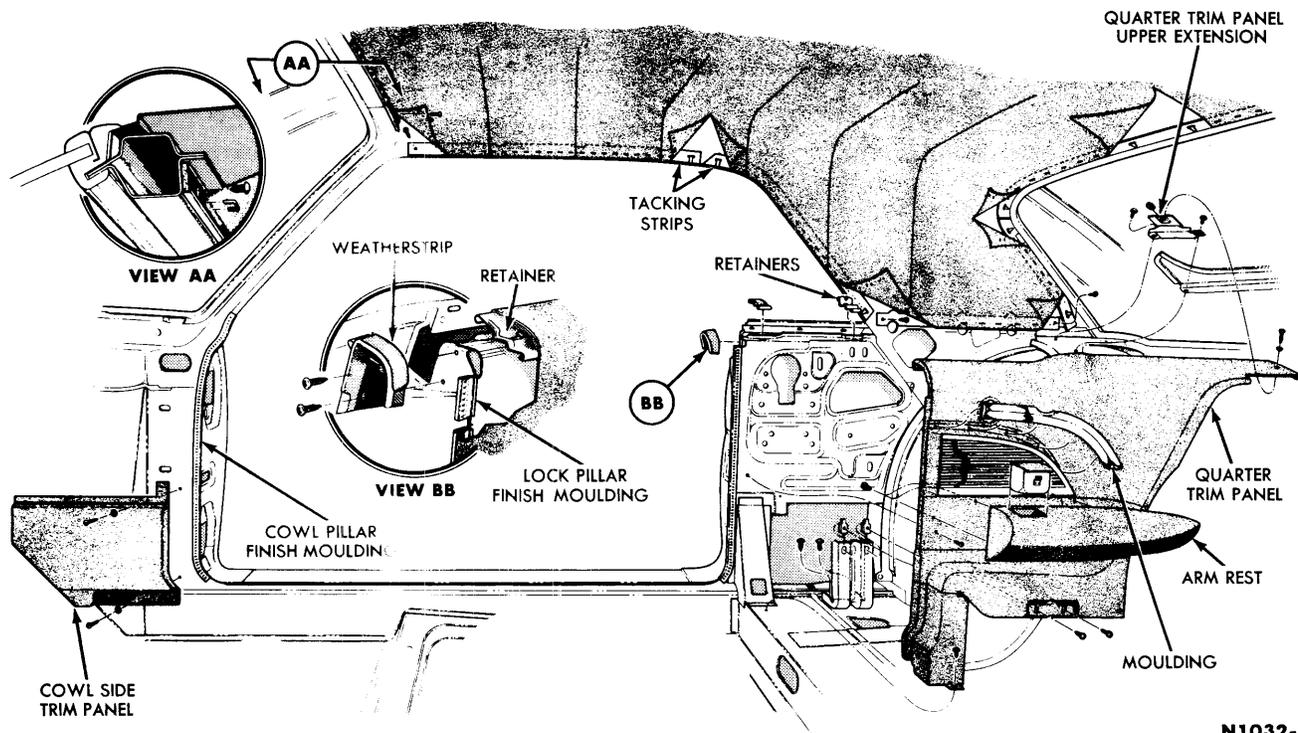
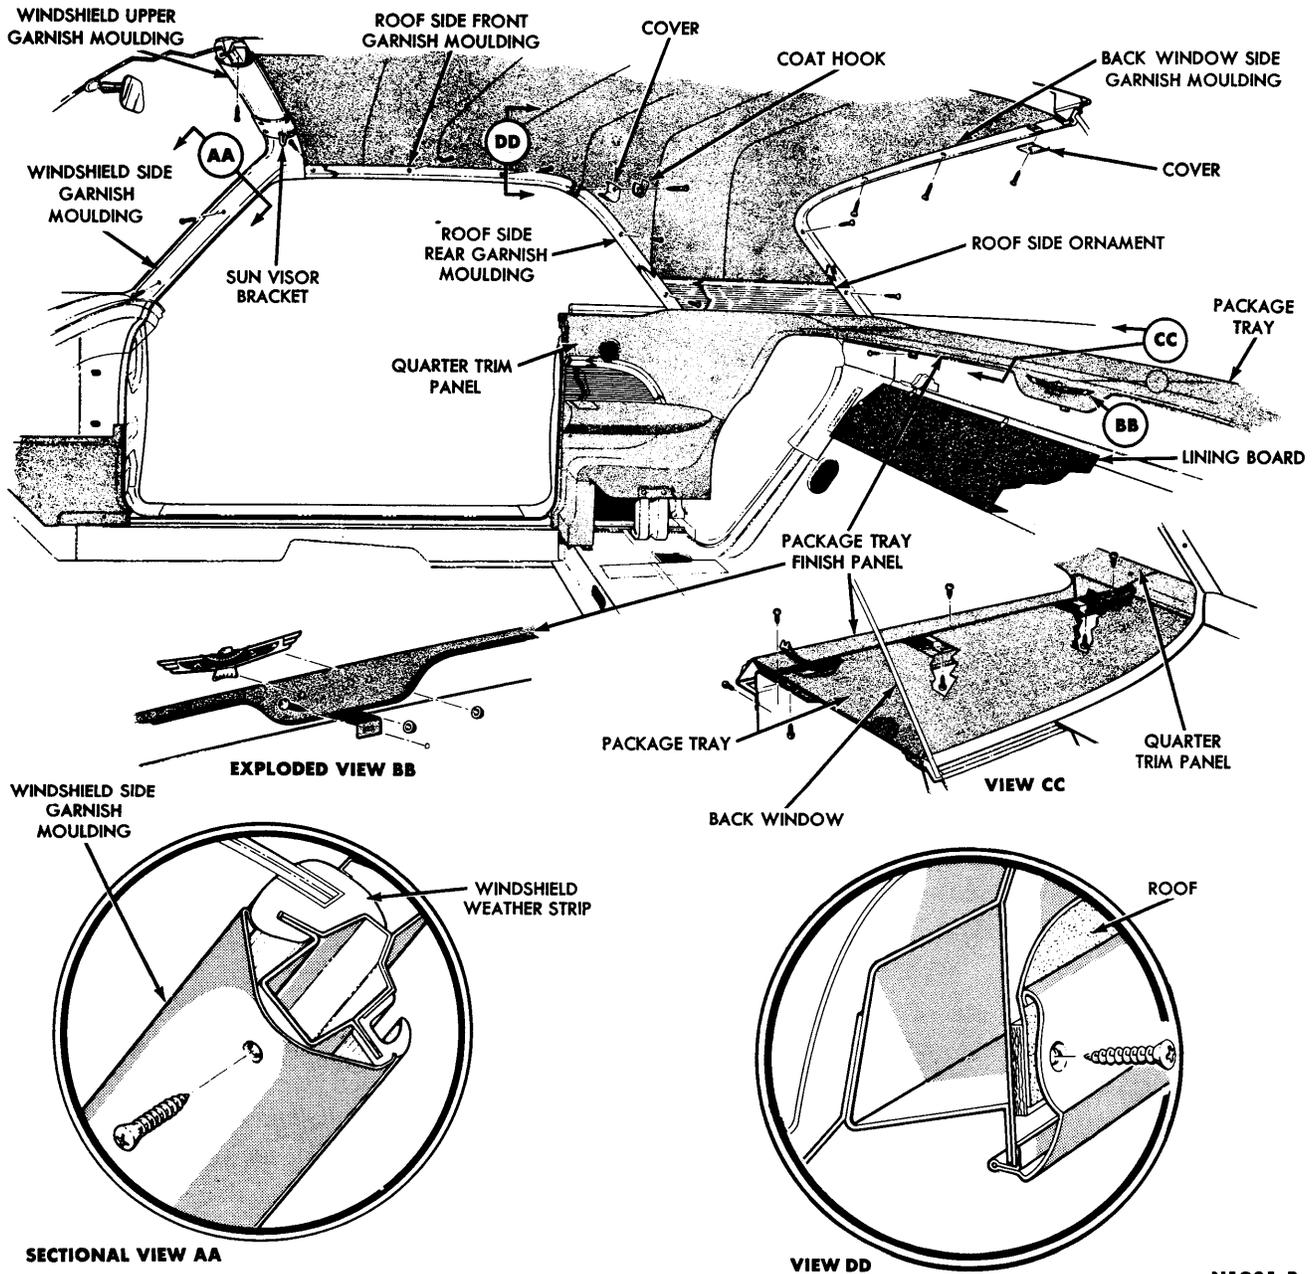

FIG. 8—Body Side Interior Trim
FIG. 9—Body Interior Mouldings
3. Remove the arm rest retaining screws and remove the arm rest (Fig. 8).
4. Remove the quarter trim panel retaining screws (Fig. 8), and remove the panel from the upper retainers. On a car with a power window regu-
1. Remove the sun visor assemblies, and the windshield side and upper garnish mouldings (Fig. 9). Pull the staples out of the windshield header tacking strip and loosen the headlining (Fig. 8).